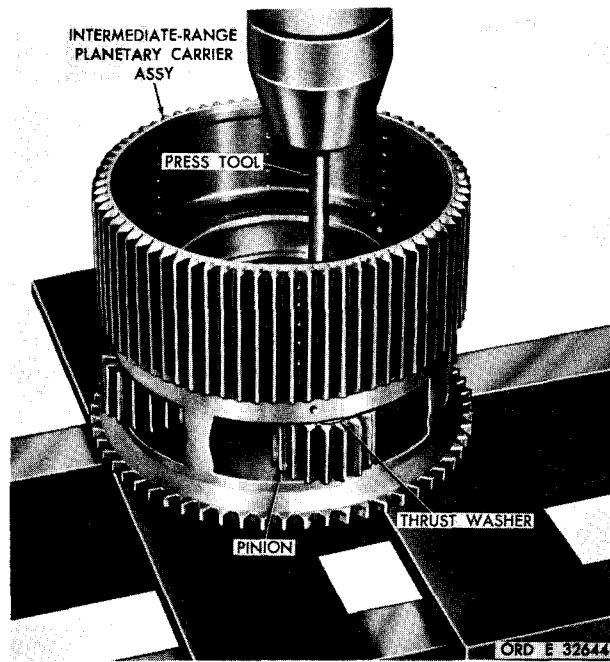

Figure 225. Removing intermediate-range planetary carrier spindle
c. Using a press and a piece of 3/8-inch drill rod approximately 6 inches long, or other suitable press tool, remove four planetary spindles from the carrier (fig. 225).
**C2* d. Remove planetary carrier pinions, spacers, thrust washers and bearing rollers from the carrier (fig. 225).